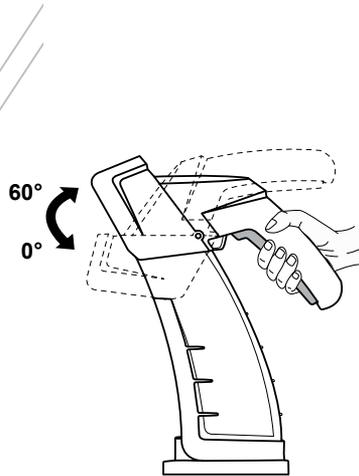

Fig. 8B
3. Squeeze the trigger and move the deflector upward or downward to a suitable height. The tool offers different angles from 0°~60°. Release the trigger to lock the chute deflector in place. (Fig. 8B)